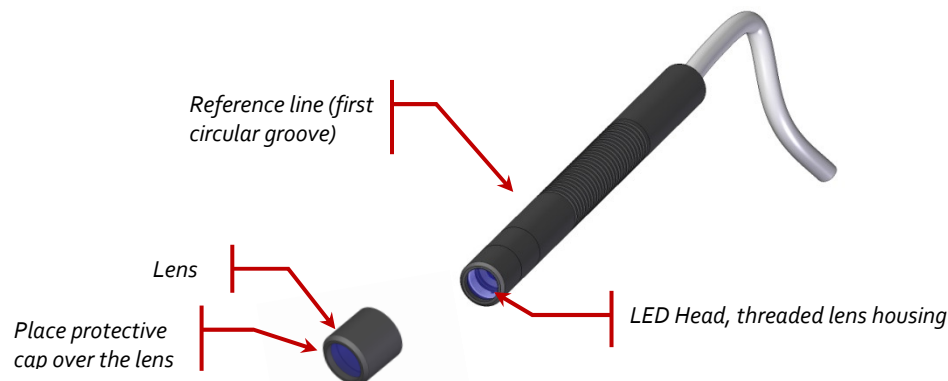
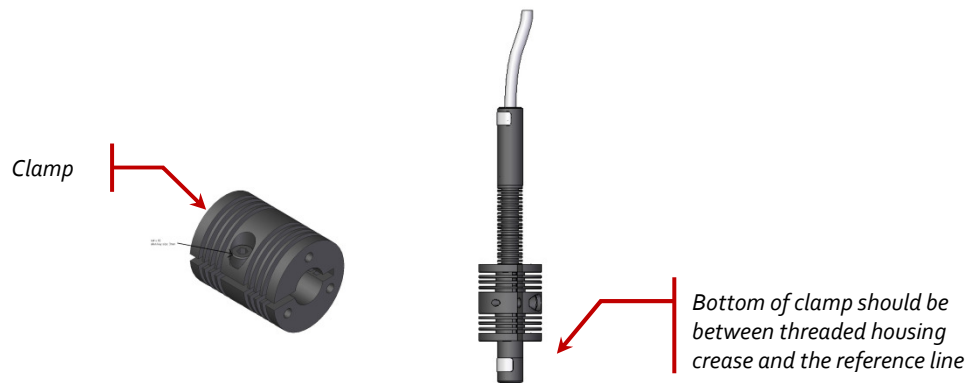

Figure 4 Lens/LED Head Connection
Figure 5 Recommended Clamp Position
6. Install the supplied installation clamp to the existing fixture using either the 3 metric threaded screw holes or the 3 imperial threaded screw holes. The two end faces of the installation bracket are identified for metric and imperial thread sizes. Though the clamp can be located in any position on the head, for optimum heat dissipation resulting in optimum performance it is recommended that the clamp position on the head is as per Figure 5.
When not in use, reinstall the cap by holding the cap-hat and pushing it back over the head. This will prevent any contamination to the lens when the head is not used for more than one day. Refer to Figure 4.
2. Slide the clamp over the lens housing and onto the head and tighten the locking screw. For optimal performance and ease of changing lenses, position the clamp so the bottom face is located between the lens housing crease and the reference line (first circular groove) on the head body. Refer to Figure 4 and Figure 5.
Holding the head firmly unscrew the lens housing and replace with desired replacement lens. Refer to Figure 4.